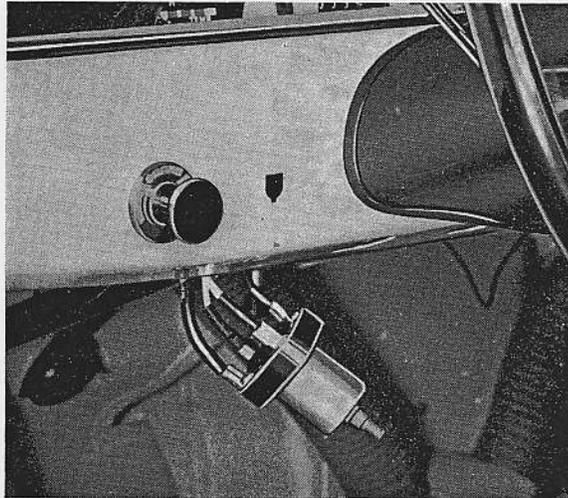

Fig. 33. Lighting switch removed.
3. Lift off the switch by first pulling it backwards and then downwards. See Fig. 33.